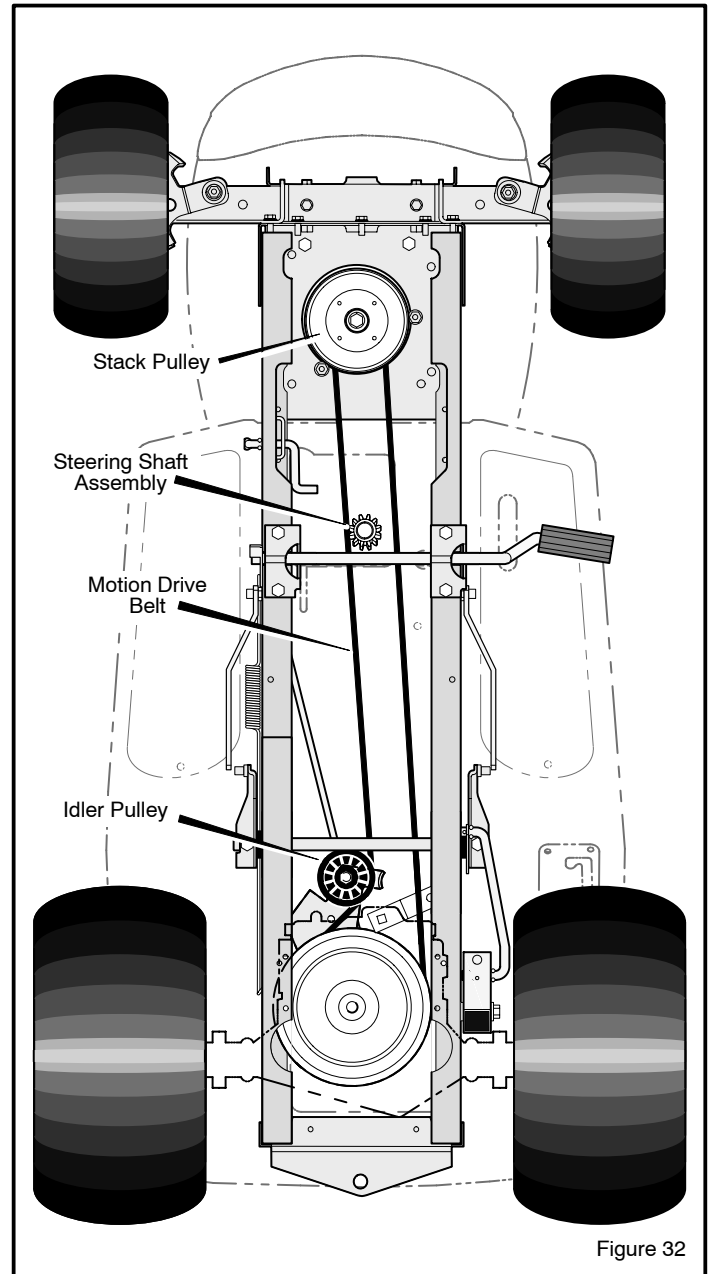

Figure 32
5. Put the belt around the **idler pulley** (Figure 27, Figure 32). Assemble the **idler pulley**. Fasten the **idler pulley** with the hex nut. Make sure the flat side of the belt is against the **idler pulley**. Also, make sure the belt is not twisted.
10. Check the routing of the motion drive belt. Make sure the **motion drive belt** is installed correctly on the **idler pulley**. Make sure the **steering shaft assembly** is inside the **motion drive belt** (Figure 32).